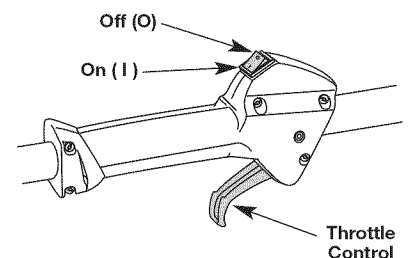

Fig. 15
**NOTE:** There is no need to turn the unit on. The On/Off Control is in the ON (1) position at all times (Fig. 15).
- Press and hold the On/Off Control in the OFF (O) position until the engine comes to a complete stop (Fig. 15).
- NOTE:** There is no need to turn the unit on. The On/Off Control is in the ON (I) position at all times (Fig. 15).